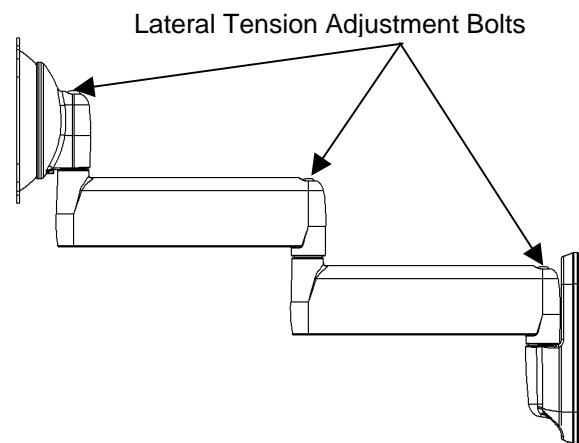

Figure 19. Adjust Lateral Tension
2. Using a 3/16" hex wrench (170) slightly tighten or loosen lateral tension adjustment bolts (see Figure 19).